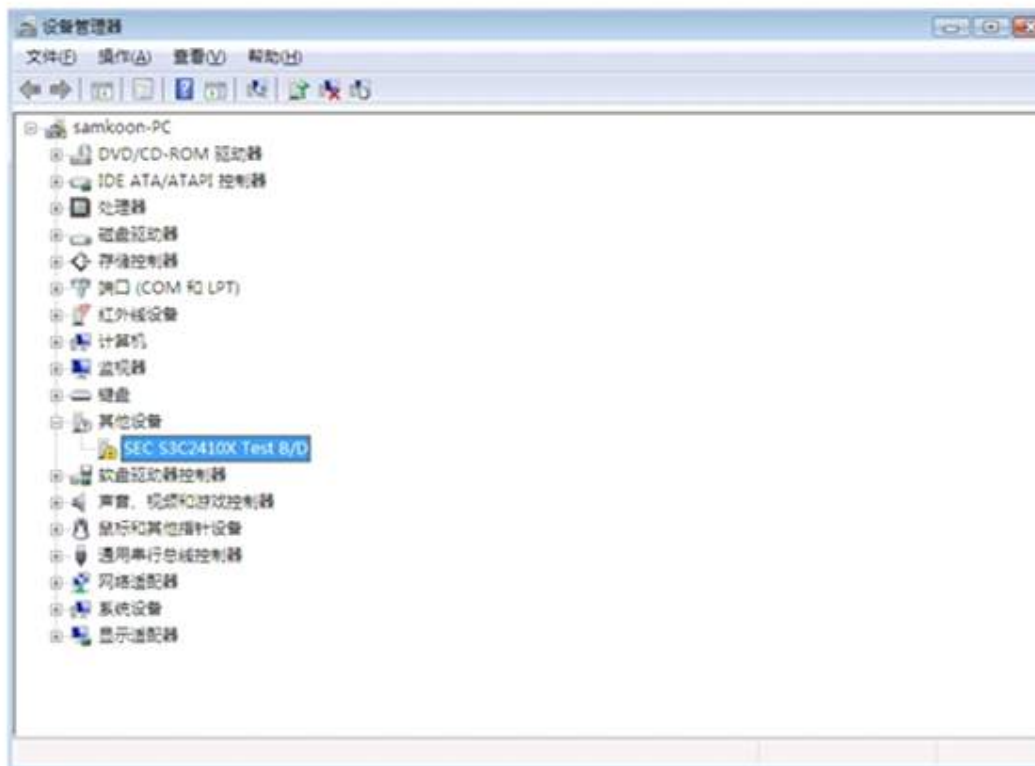

Figure 2-18: Device manager page of VISTA
- Select “Ask me later”, and then open the device manager to find the touch screen equipment. Right click on the equipment, and choose to update the driver. See Figure 2-18.